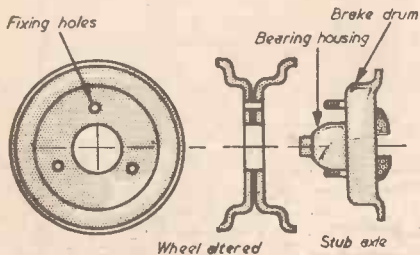

Fig. 4.—Builder's barrow wheels altered to suit Austin 7 stub axles. Fig. 6 (Right).—The interior of the author's trailer.
A fourth layer of $\frac{3}{16}$ in. strip round the three edges completed a second groove (D) to receive a metal backing plate cut to the dimensions given at E in Fig. 4. It was found necessary to file down slightly the top edge of the box so as to avoid scratching the emulsion surface of the plates as they were inserted and removed.
With the microscope tube in a horizontal position the distance from the centre of the eyepiece to the table was measured. This height remains constant so no provision for adjustment of the camera position was necessary. Any stand similar to that shown at F in Fig. 4 would serve. When securing the camera to its stand the distance from the centre of the camera aperture to the table was made the same as for the eyepiece-measurement, the camera being kept parallel with the base of the stand by checking with a spirit level.
The wheels used are the type used on builders' barrows; these have 4 P.R. (ply rating) tyres which are suitable for road use. Air pressure required was found to be 25lb. sq. in. The wheels were altered, as shown in Fig. 4, to enable them to be mounted on Austin 7 stub axles, so giving the wheels the bearings and braking system which are required on trailers of over 2 cwt. These wheels can be obtained new from builders' merchants.